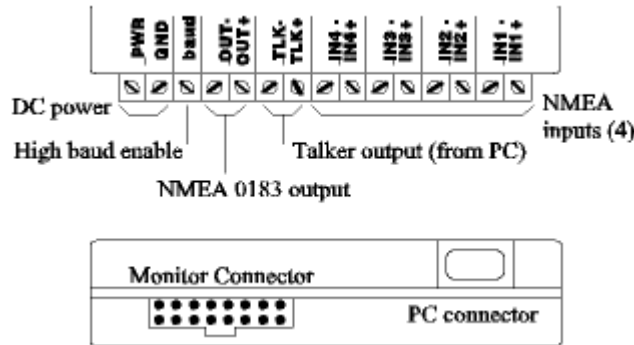

Figure 3. VS52(U) Connections
- Figure 3 – VS52(U) Connections
3. VS52(U) INSTALLATION: Installation of the VS52(U) requires connection to a power source and to NMEA talkers and listeners. (See Figure 3.) All connections are made via a fifteen position terminal strip. A description of the connections is given in Table 2. Any unused connections may be left disconnected. A PC connector is provided on the rear for connection to a computer. D.C. power to operate the VS52(U) is supplied to the terminal strip. A 14-pin ribbon cable connects the VS52(U) to the Interface Unit.